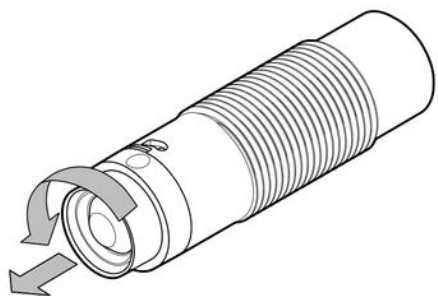

Fig. 2
1. Hold the Device by the sleeve. Turn the main part in the direction indicated by the arrow to unlock it. Next, extract the main part from the sleeve (Fig. 2).
1. Extract the main part from the sleeve (Fig. 2).